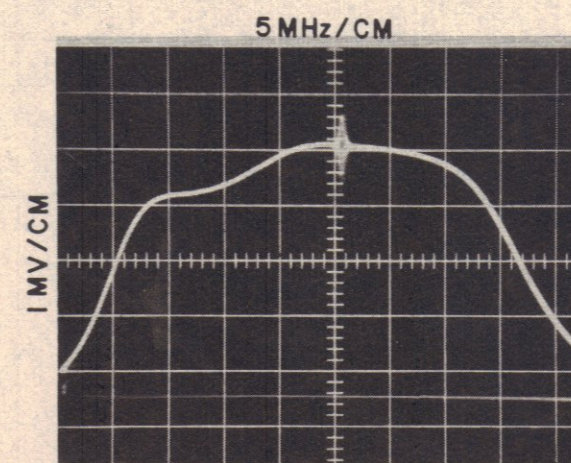

Figure 4-1h. Typical YIG Response
- (5) Adjust the sweep generator for a 2000 MHz  $\pm$  100 MHz sweep. Adjust the attenuators, and oscilloscope controls to display a response. Figure 4-1h illustrates a typical response.
- (6) Use the TMS-1 100 MHz markers and identify the marker corresponding to 2000 MHz. Set the HP-608 Signal Generator for minimum output level.
- (7) Adjust A3R26 CCW until the YIG response is centered about the 2000 MHz marker.
- (8) Turn off the TMS-1 markers and adjust the HP-608 Signal Generator for an accurate 160 MHz CW output signal which produces a visible marker on the YIG response.